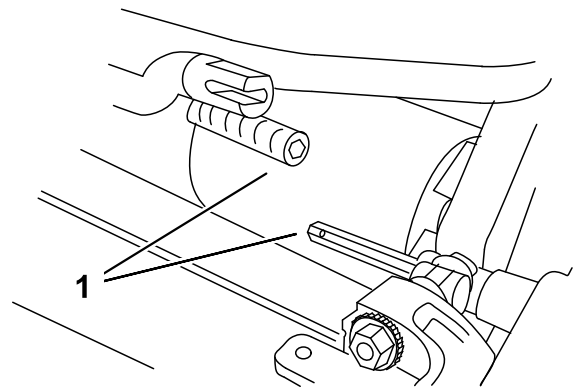

Figure 15
6. Pull cutting unit forward about 2 inch (51 mm) and then to the right to disengage the transmission coupling (Figure 15).